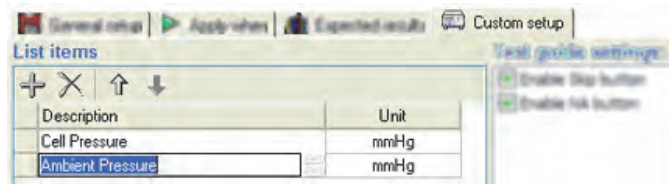

Figure 3-38. Defining the Numerical List
- Click the textbox below the column header named **Description**. A blank textbox is added in the column under Description shown in Figure 3-38.